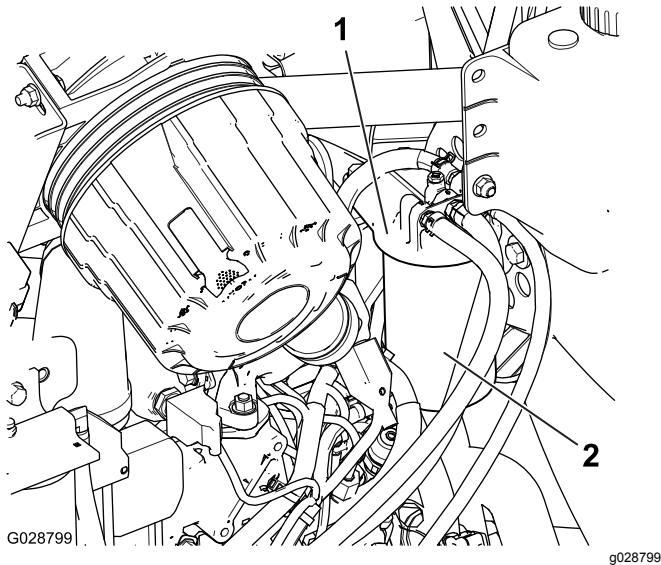

Figure 90
1. Clean the area around the fuel-filter head (Figure 90).
2. Remove the filter and clean the filter head mounting surface (Figure 90).